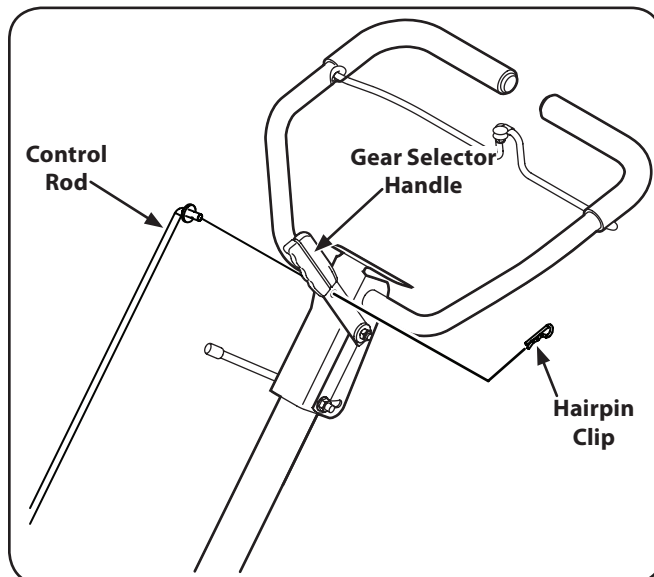

Figure 3-6
4. Insert the longer end of the control rod through the hole in the gear selector handle and secure with a cotter pin. See Fig. 3-6.